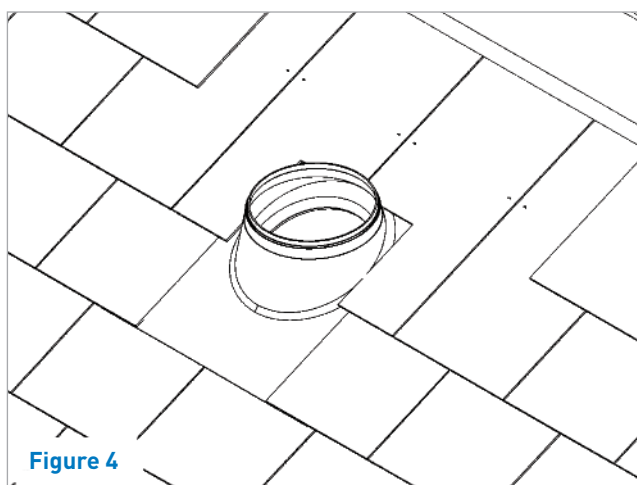

Figure 4
13. Lay the next course of slates, cutting the slate directly above as necessary. The slates on either side may also need to be notched to clear the projection (Figure 4).